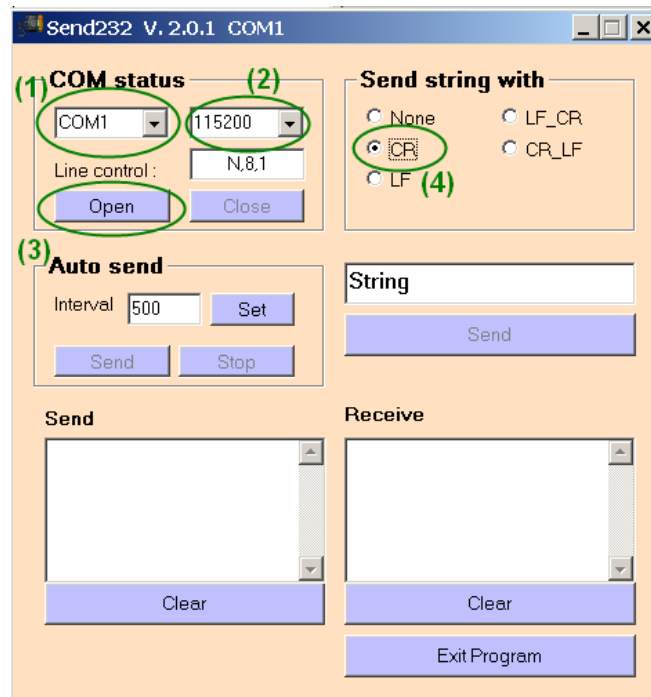

Figure 24: Send232 Utility with the required COM port settings
- Start the test utility “Send232” (Figure 24).